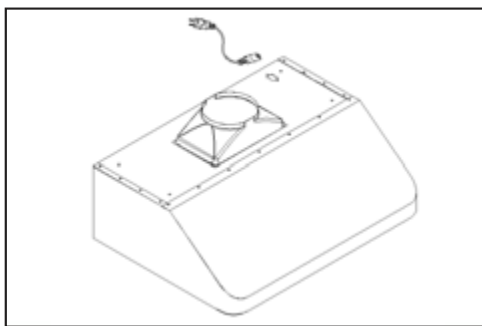

Figure 4
- B-4. Puncture the knockout wire access hole at the back of the hood and draw the electrical wires through as shown in Figure 4.